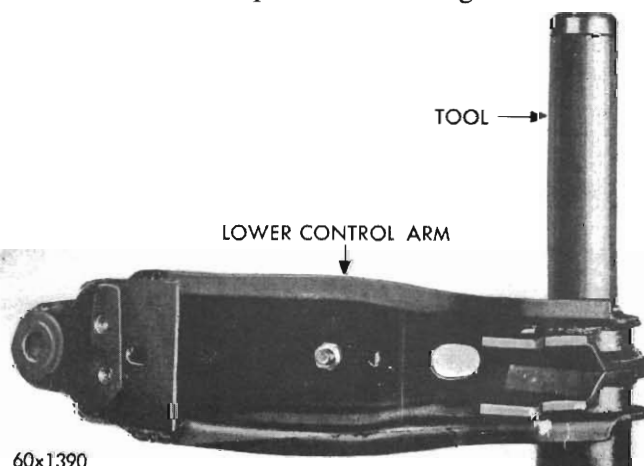

Fig. 11 - Installing shaft assembly in lower control arm
(2) Press the shaft and bushing assembly into the lower control arm using Tool E2C25C and an arbor press (Fig. 11).
(3) Install the torsion bar adjusting bolt and swivel.
(4) Install the jounce bumper on the control arm and tighten to 200 lbs. in.
(5) Position the strut in the lower control arm and tighten nut to 110 lbs./ft.